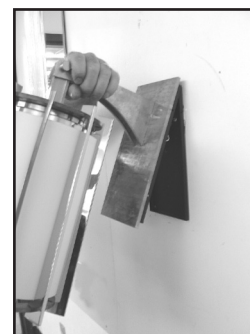

Figure 4
Step 6 Lift fixture from hanger, fold hanger flat and tuck wires into outlet box while lifting fixture over threaded stud on top of mounting bracket. Carefully place fixture over mounting bracket and rest flush against wall. (See Figure 4)